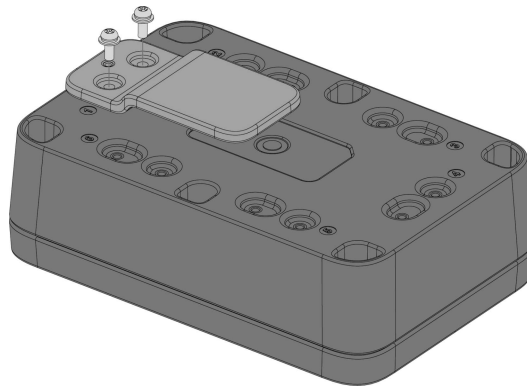

Figure 24: Fixing the belt clip mount on the enclosure
2. Fix the belt clip mount marked with the letter **E** on the WisBlock Unify Enclosure using two (2) pieces of M3*8 mm Head screw with washer. Place it on fixed positions number **1 or 4** of the enclosure, as shown in **Figure 24**.